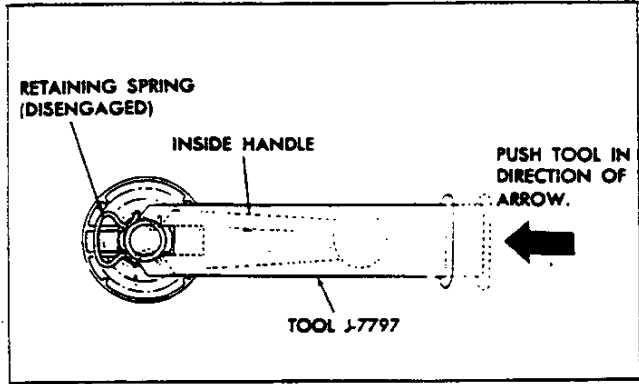

Fig. 24—Removing Window Crank with J-7797
#### DOOR LOCK AND REMOTE CONTROLS (Fig. 24)
- Position window all the way up to line up two (2) sash screws through access holes.
- Remove two (2) sash screws on horizontal guide channel while holding nut with other hand (fig. 24).
- Disengage stop by removing one (1) Phillips head screw at top of channel assembly.